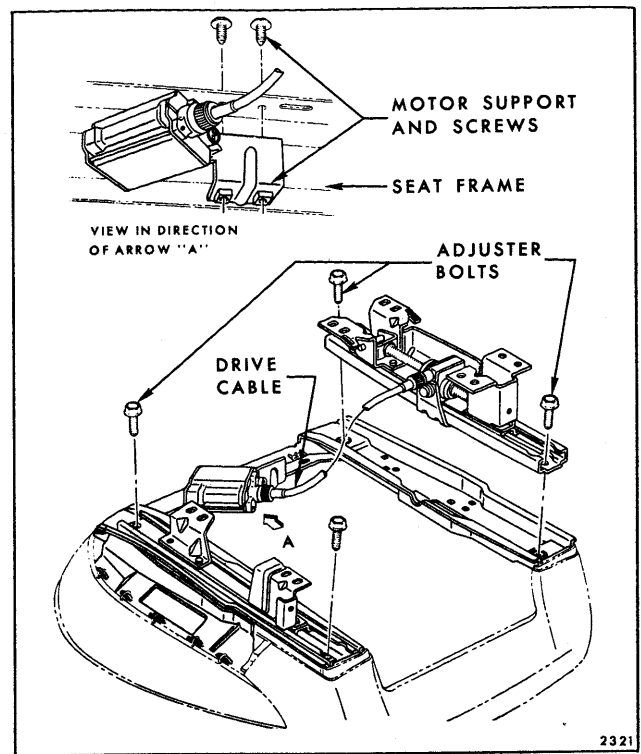

Fig. 10-35—Power Horizontal Bucket Seat Adjuster Removal
2. Disconnect power drive cable from adjuster gearnut (Fig. 10-35).
3. Remove adjuster-to-seat bottom frame front and rear attaching bolts (Fig. 10-35) and remove adjuster from seat assembly.